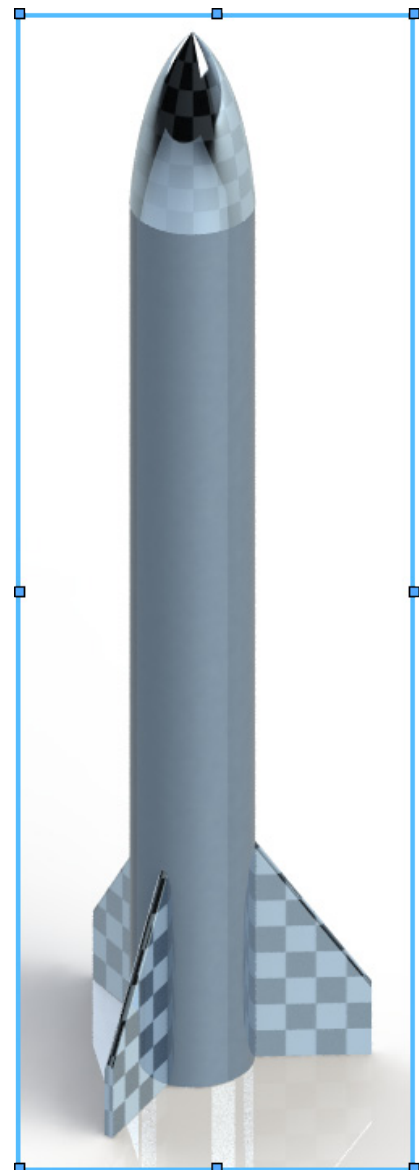

Fig. 14
- Step 1. Click Zoom to Fit  (F) on the View toolbar.
- Step 4. Adjust the render region to fit around all, Fig. 14.